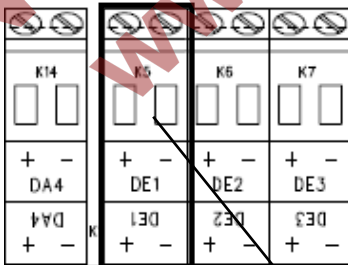

Fig. 10
1. Connect the pulse output of the gas meter to the "DE1" terminal (1 in Fig. 10, page 38) of the EK280.
1. Connect the encoder of the gas meter to the "DE1" terminal (1 in Fig. 10, page 38) of the EK280.
1. Connect the high frequency pulse output of the gas meter to the "DE1" terminal (1 in Fig. 10, page 38) of the EK280.